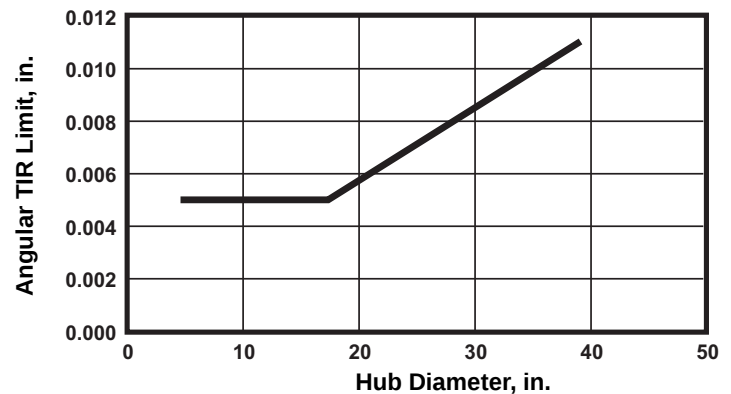
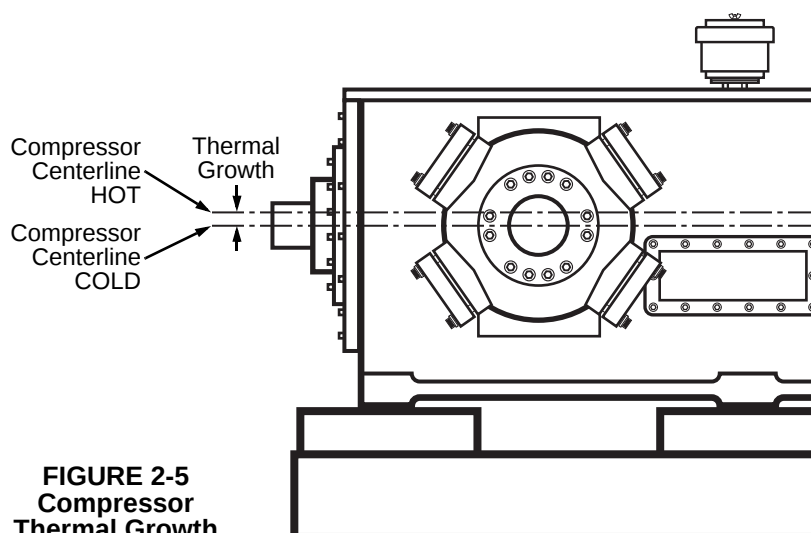

FIGURE 2-3 ANGULAR COUPLING-HUB ALIGNMENT TIR LIMITS
FIGURE 2-5
- To ensure parallel and concentric drive train alignment, position connected equipment so total indicator (TIR) is as close to zero as possible on the coupling hub faces and rim diameters at normal operating temperature. Do not exceed 0.005 inches (0.13 mm) on the face and rim diameter. Except for coupling hubs with outside diameters above 17 in. (43 cm), the angular face TIR limit is $0^{\circ} 1'$ or 0.0167° . See Figure 2-3. Correct for "Cold Alignment" on page 2-10.
Align the compressor to the driver taking into account the difference in thermal growth between the compressor and driver, so the face and rim TIR measurements at the coupling will be within the Figure 2-3 limits when equipment warms to the normal operating temperatures. Reference Figure 2-5 and Table 2-4 for the compressor centerline height change, based on $6.5 \times 10^{-6}/^{\circ}\text{F}$ ($11.7 \times 10^{-6}/^{\circ}\text{C}$) and a typical differential temperature increase of 100°F (55.6°C). For other significantly different predicted differential temperature increases, the thermal growth value may be calculated for the compressor. Refer to the driver manufacturer's thermal growth prediction for the driver differential temperature increase to normal operating temperature.